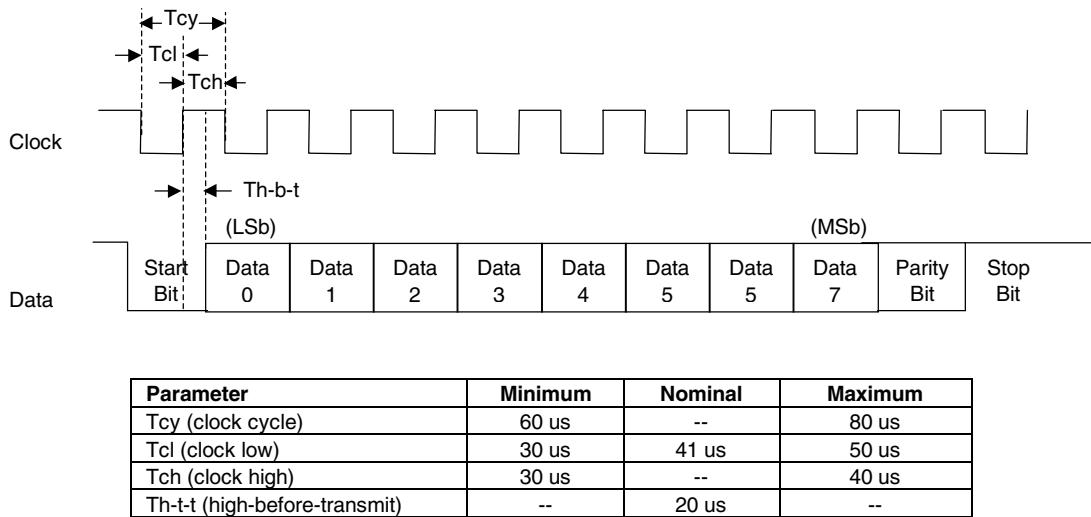

Figure C-2. PS/2 Keyboard-To-System Transmission, Timing Diagram
The PS/2-type keyboard sends two main types of data to the system; commands (or responses to system commands) and keystroke scan codes. Before the keyboard sends data to the system (specifically, to the 8042-type logic within the system), the keyboard verifies the clock and data lines to the system. If the clock signal is low (0), the keyboard recognizes the inhibited state and loads the data into a buffer. Once the inhibited state is removed, the data is sent to the system. Keyboard-to-system transfers (in the default mode) consist of 11 bits as shown in Figure C-2.